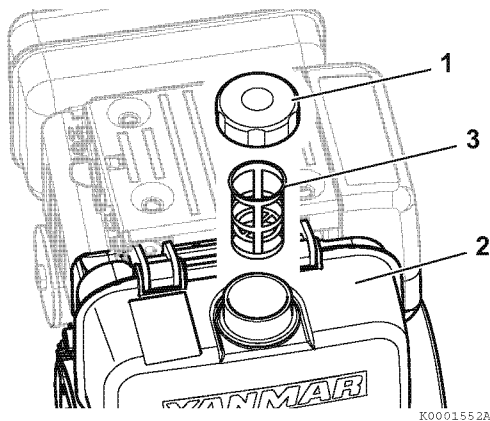

Figure 6
1. Clean the area around the fuel cap (1, **Figure 6**).
2. Remove the fuel cap (1, **Figure 6**) from the fuel tank (2, **Figure 6**).
3. Lift out the inlet fuel screen (3, **Figure 6**).
5. Install the inlet fuel screen (3, **Figure 6**).
6. Replace the fuel cap (1, **Figure 6**) and hand tighten. Overtightening the fuel cap will damage it.